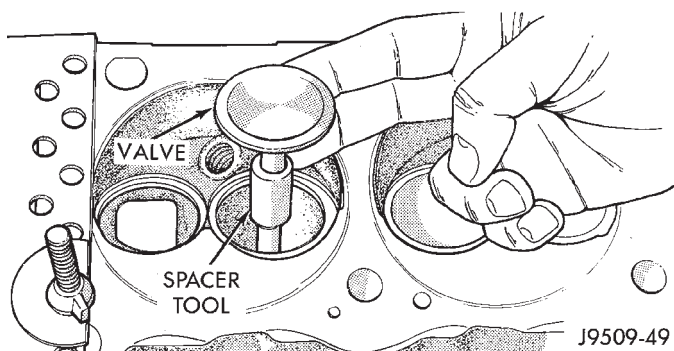

Fig. 50 Positioning Valve with Tool C-3973
(1) Install Valve Guide Sleeve Tool C-3973 over valve stem and install valve (Fig. 50). The special sleeve places the valve at the correct height for checking with a dial indicator.